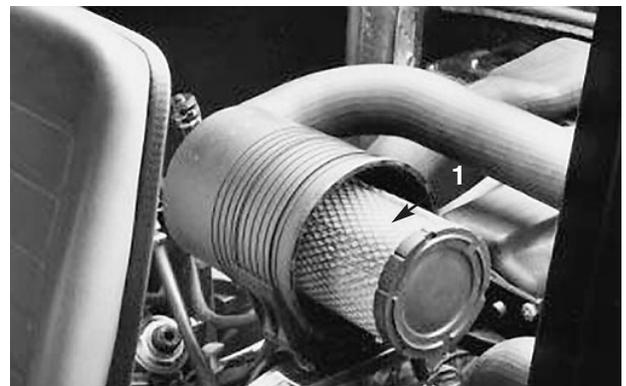

Figure 40
2. Gently slide the primary filter (Fig. 40) out of the air cleaner body to reduce the amount of dust dislodged. Avoid knocking the filter against the air cleaner body. Do not remove the safety filter.